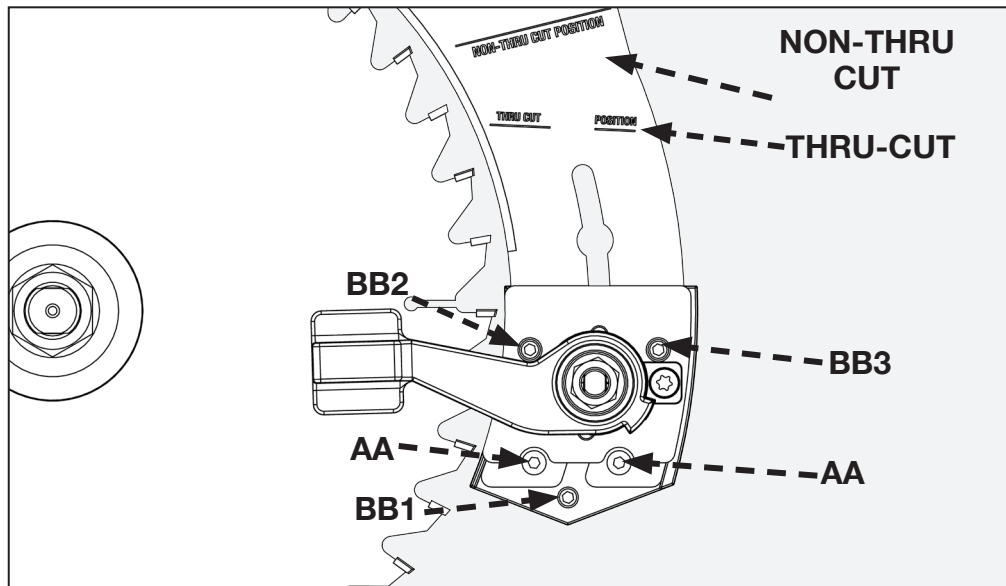
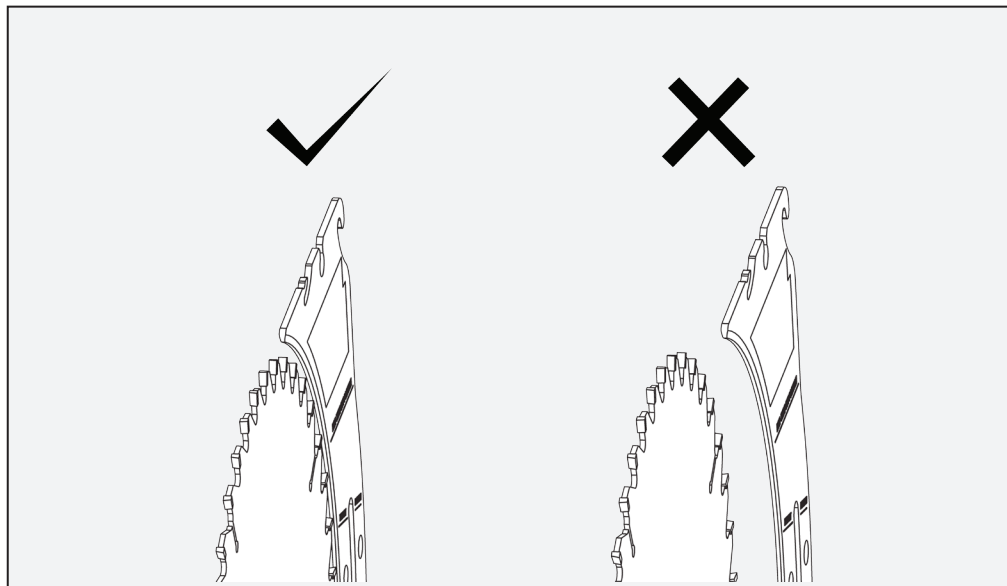
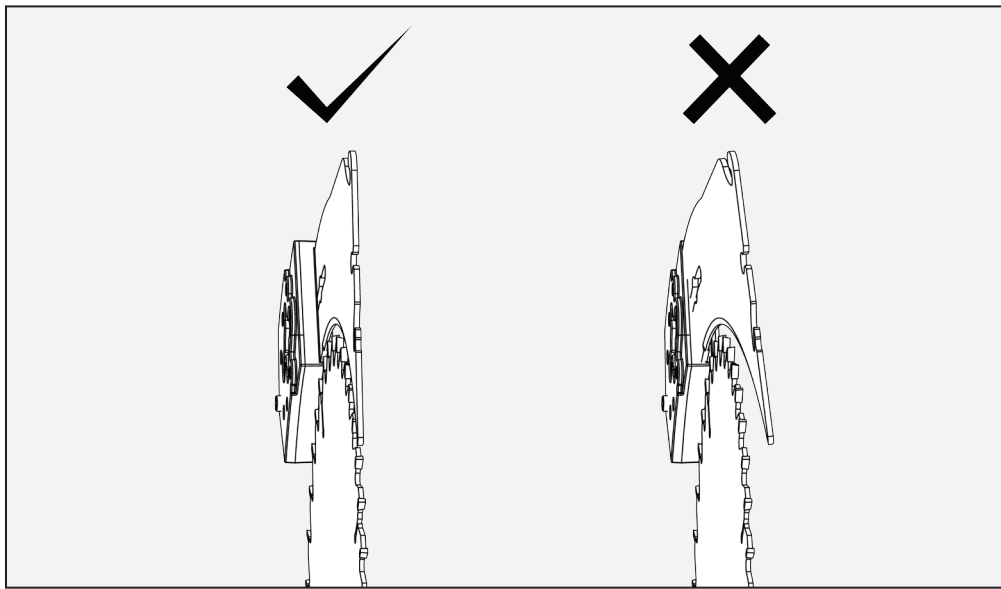
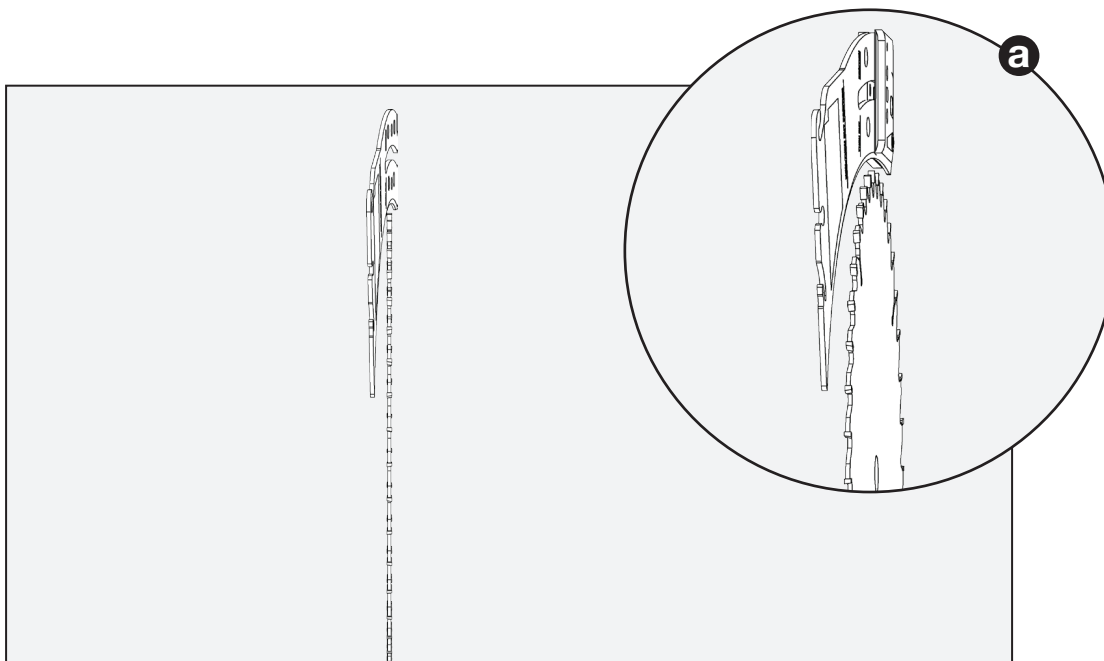

FIGURE 59
FIGURE 60
FIGURE 61
FIGURE 62
3. Slide the riving knife down and backward until you feel the lock pins engage the riving knife in the “Non-Thru Cut” position. When properly aligned in this position, the “Non-Thru Cut” line on the riving knife will be parallel to and level with the table. See Figure 59 on page 33.
Location point for THRU CUT POSITION as shown in Figure 59. (Operator should adjust the riving knife to this position when making “THRU” cuts.)
If a parallel adjustment is required use Figure 59 and Figure 60 to make the following adjustments:
If the riving knife has horizontal misalignment, adjust as follows using Figure 59 and Figure 61.
If the riving knife has vertical misalignment, adjust as follows using Figure 59 and Figure 62.